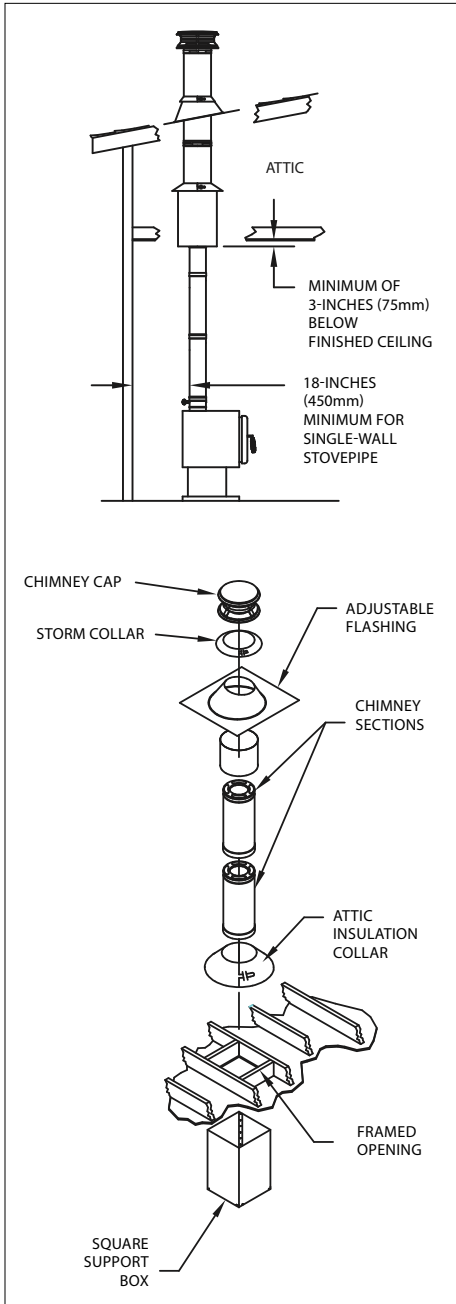

Figure 3
2. Frame Support Opening: Use a laser level or drop a plumb bob to the center of the appliance’s flue outlet and mark this center point on the ceiling. Refer to **Table 2** for framing dimensions. Mark a cutting line around the center point to the dimension required in **Table 2**. Cut a square hole in the ceiling for the Support Box. Frame a level, square opening centered over the hole which you have cut. (**Figures 3 and 4**).